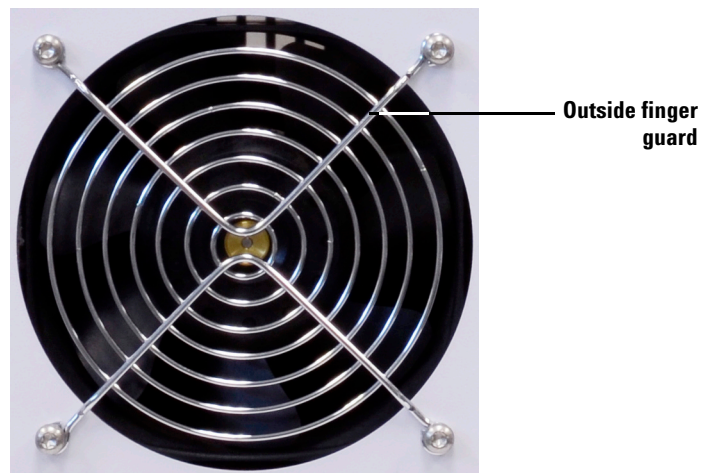

Figure 8 Outside finger guard and screws installed
- 2 Position the outside finger guard on the outside of the Quiet Cover MS door and align the screw holes (see Figure 8).